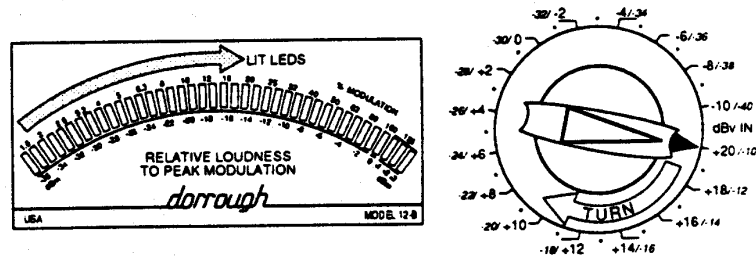

Fig. 8. This example illustrates the action of the LED bar display as the RANGE attenuation is increased (clockwise).
2. Turn the RANGE Attenuator clockwise a step at a time while you observe the meters. Continue rotating the RANGE Attenuator clockwise until you see near full scale indications on the meters, as shown in Fig. 8.